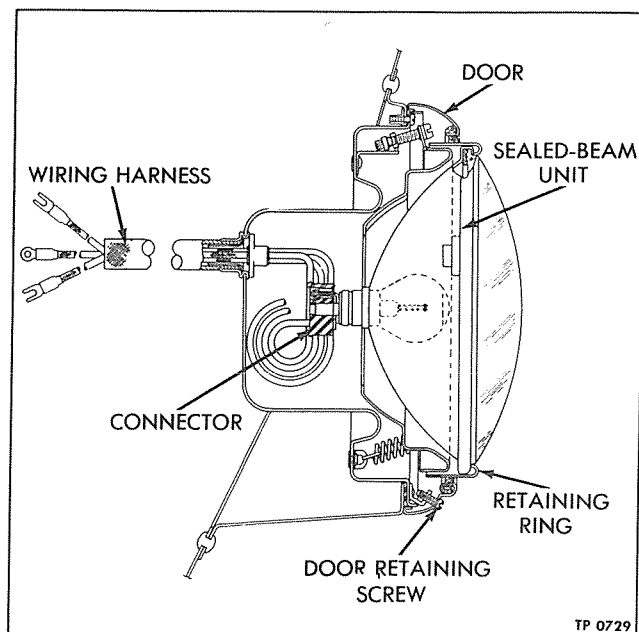

Figure 1—Headlight Assembly
Headlight (fig. 1) is double filament "Sealed Beam" type. The lens, reflector, and bulb constitute a complete unit and can be replaced only as such. If lens is cracked, bulb burned out, or reflector damaged, replace complete unit.
4. Remove door retaining screw (fig. 1), and door for access to adjusting screws. Top screw provides vertical adjustment and side screw aims light horizontally.